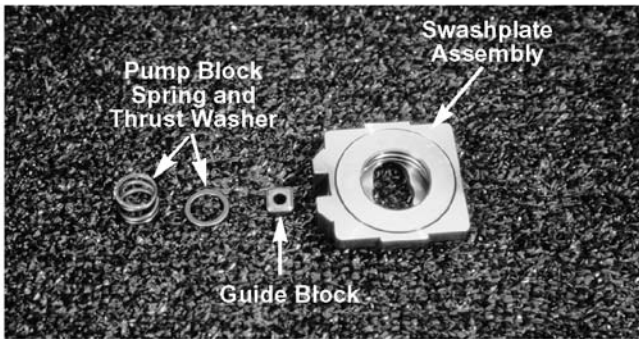

Figure 5-25.
- C. Swashplate assembly. See Figure 5-25.